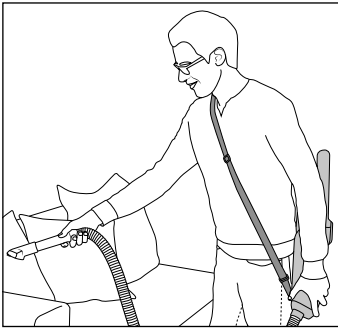

Fig. 12
- We recommend that you place the carrying strap 27 over your head onto one shoulder (see fig. 12).